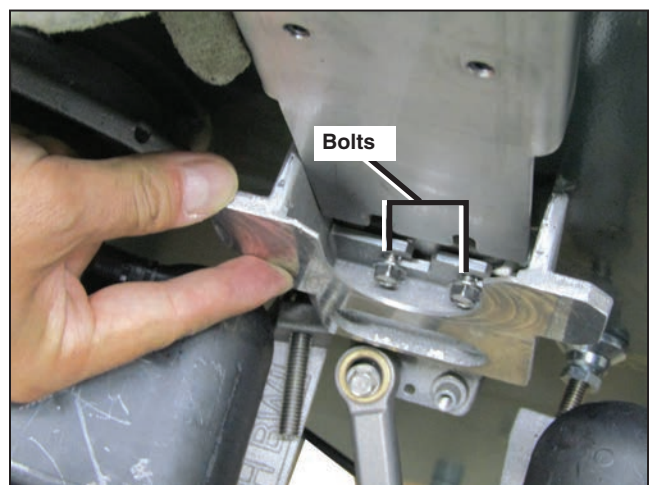

Figure 12. The parking stand extender should be pulled out from between the parking stand bolts and parking stand.
- STEP 2.** Remove the parking stand spacer and then the extender. See Figure 12. Rethread the hardware into the holes they were removed from to prevent loss.